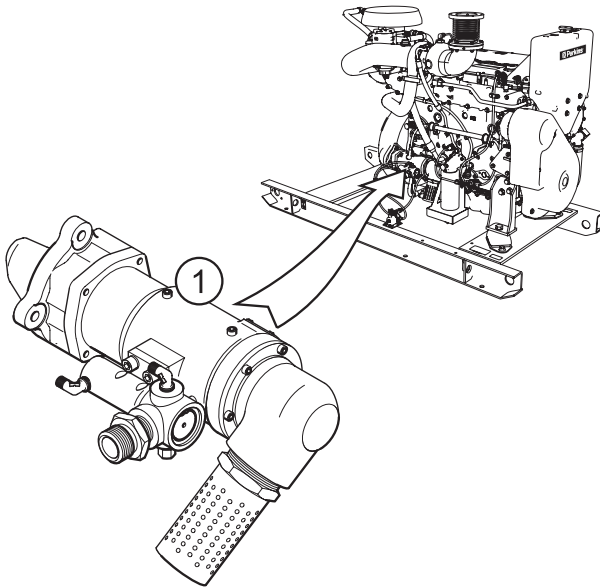

Figure 16
Figure 16 shows the optional air starter (item 1).